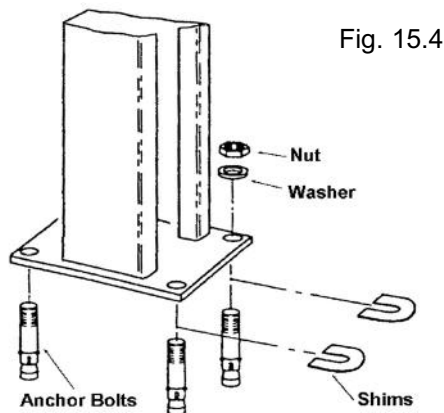

Fig. 15.4
5. If shimming is required, insert the shims as necessary under the base plate so that when the anchor bolts are tightened, the columns will be plumb. (See Fig. 15.4)